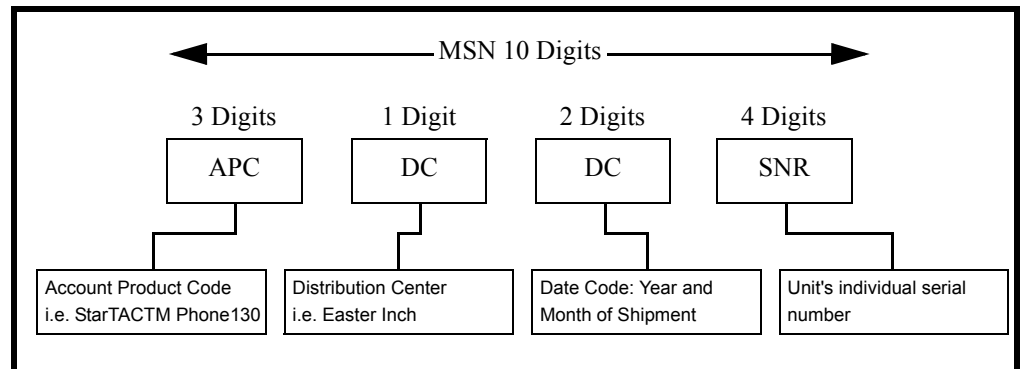

Figure 23. MSN Label Breakdown
- The MSN is divided into 4 sections as shown in Figure 23.